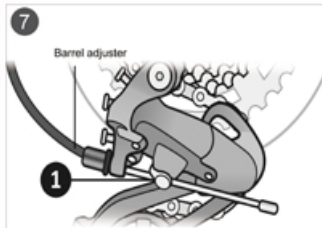

Figure 1
- ① Shift the rear shifter to largest number indicated, disconnect the rear derailleur cable from the cable anchor bolt and place the chain on the smallest sprocket. Figure 1